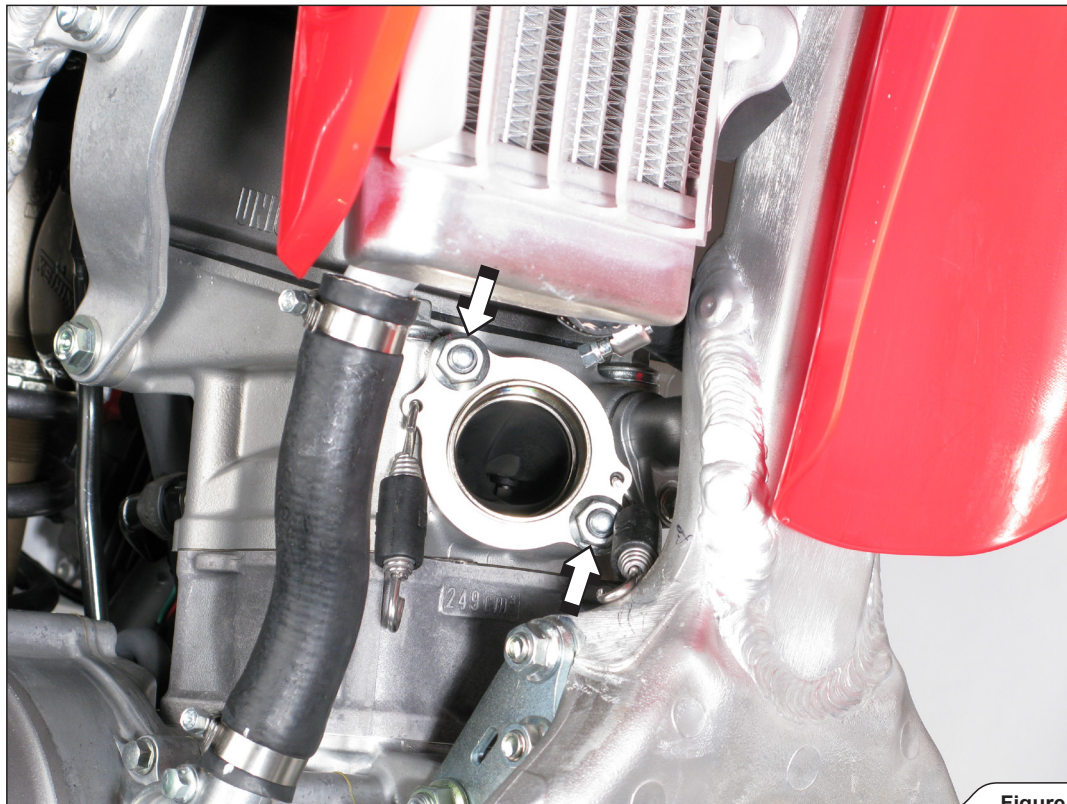

Figure 5
2. Install the assembled sleeve, flange and springs onto the motorcycle and hand tighten the two marked stock nuts (Figure 5).